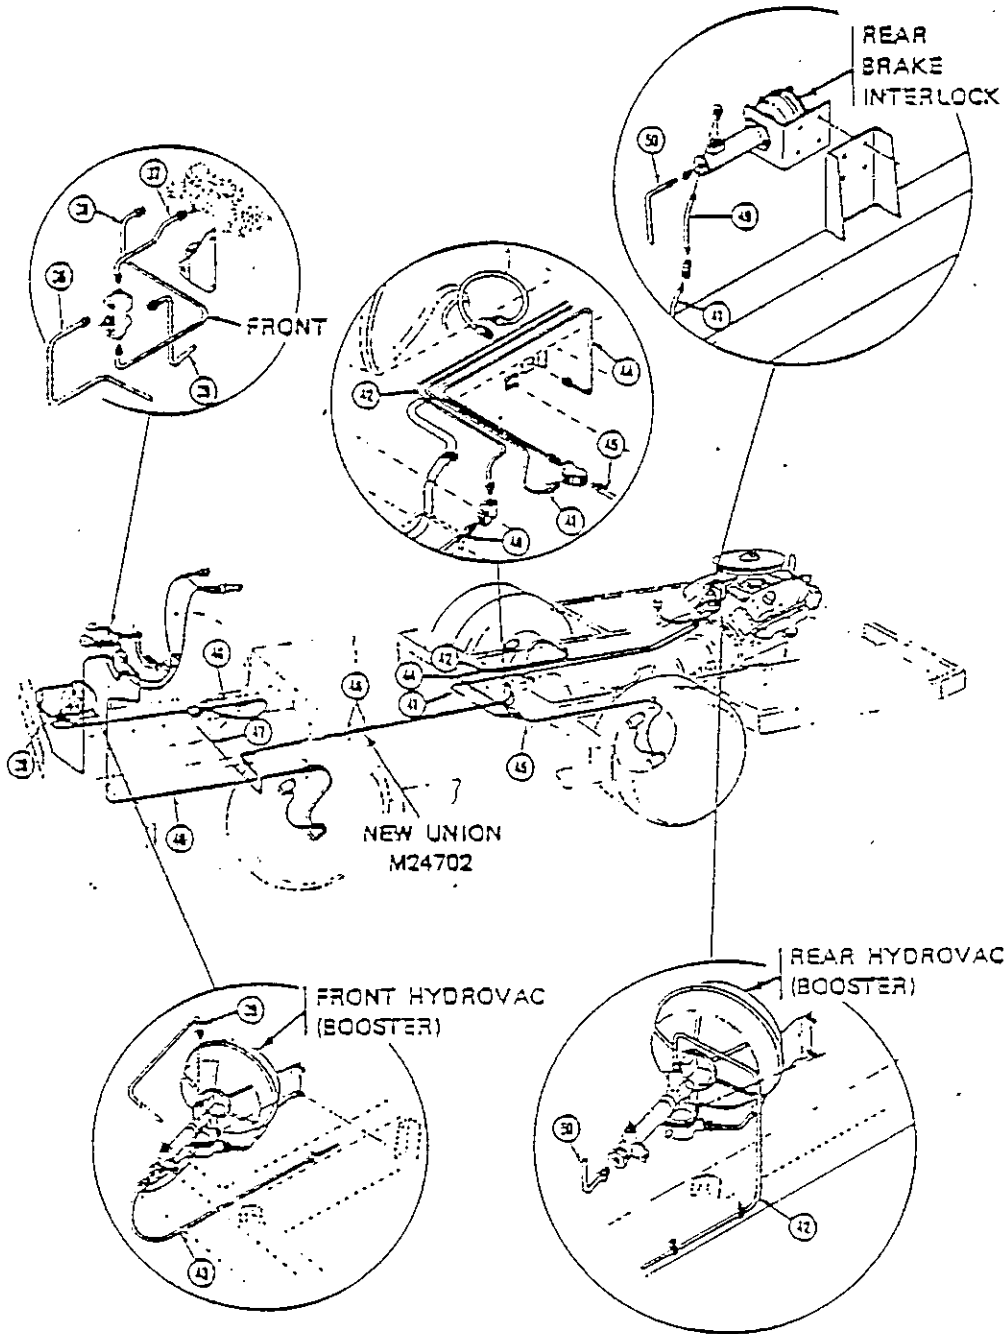

Figure 4. Line Location for Kit IV.
Rivets are used to reinstall the front nose cone. Line numbers above correspond with line numbers in Figure 4.	PARTS MANUAL (S)